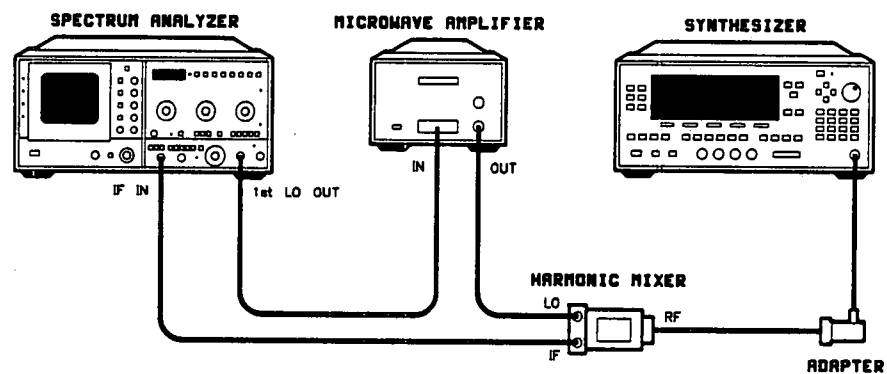

Figure 2-10. Spurious Signals (Harmonics) Test Setup >20 GHz
9. Connect the equipment as shown in figure 2-10 using the HP 11970K Mixer (20 to 26.6 GHz).